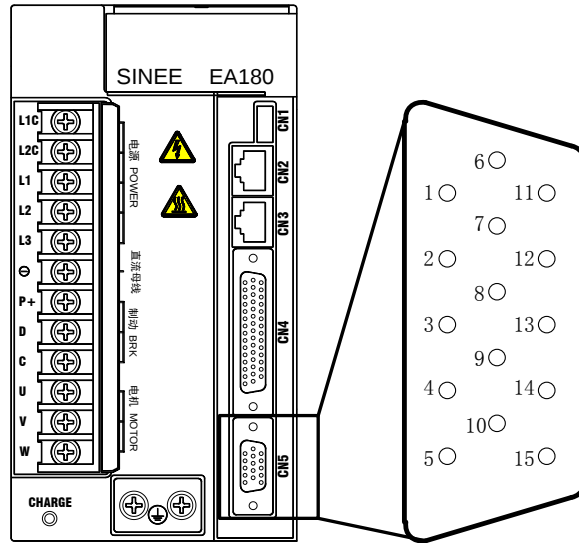

Figure 3-4 CN5 terminal location
3.3.1. CN5 is the encoder signal terminal, which is DB15 socket, and its position is shown in Figure 3-4: